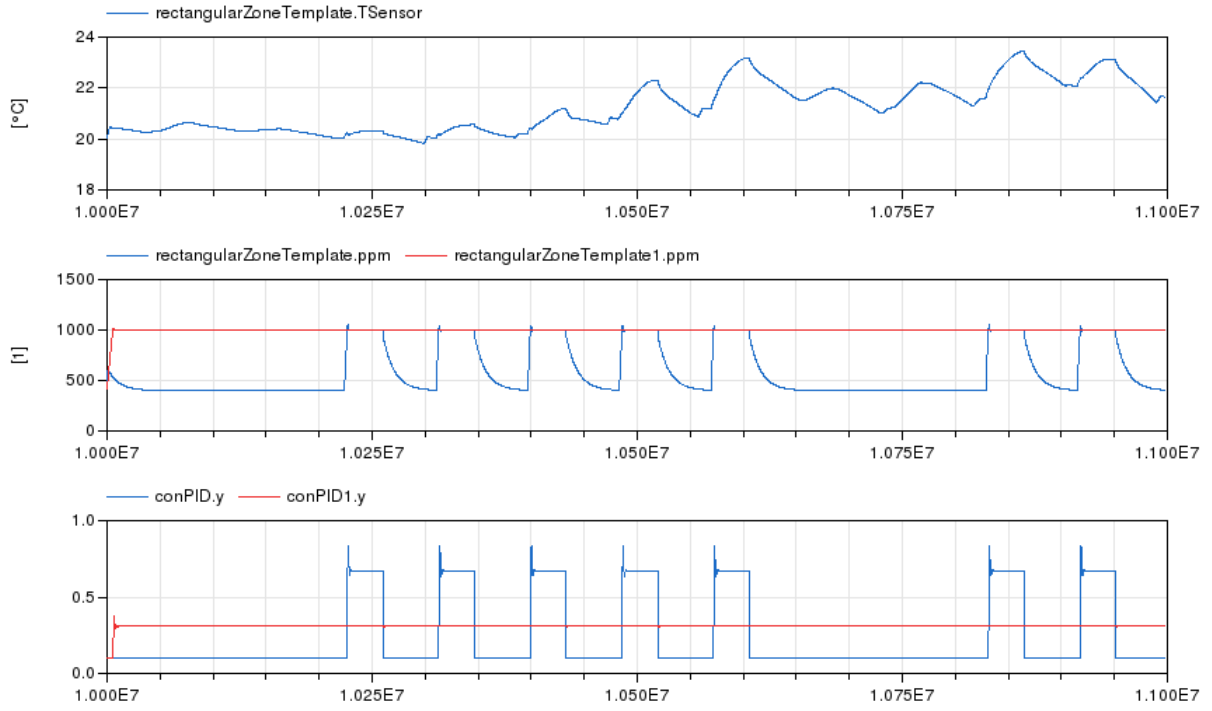

Figure 4: Zone temperature,  $\text{CO}_2$  concentrations and PI control signals.
**Reference result** The zone temperature, CO2 concentrations and PI control signals are plotted in Figure 4. Note the small overshoot of the PI controller outputs and the exponential decay towards the outdoor CO2 concentration when there are no occupants.